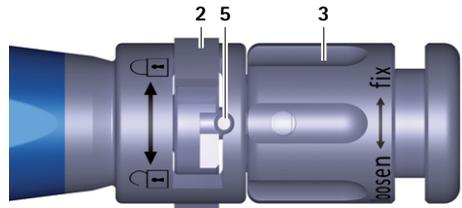

Fig. 4 Close-up view of the insertion instrument, trial implant/implant clamped
- ▶ Turn the rotary nut 3 on the insertion instrument A clockwise ("fix" direction) until the trial implant is clamped, see Fig. 4.
- ▶ Turn the rotary nut 3 on the insertion instrument A clockwise (direction: "fix"), until the implant is clamped, see Fig. 4.